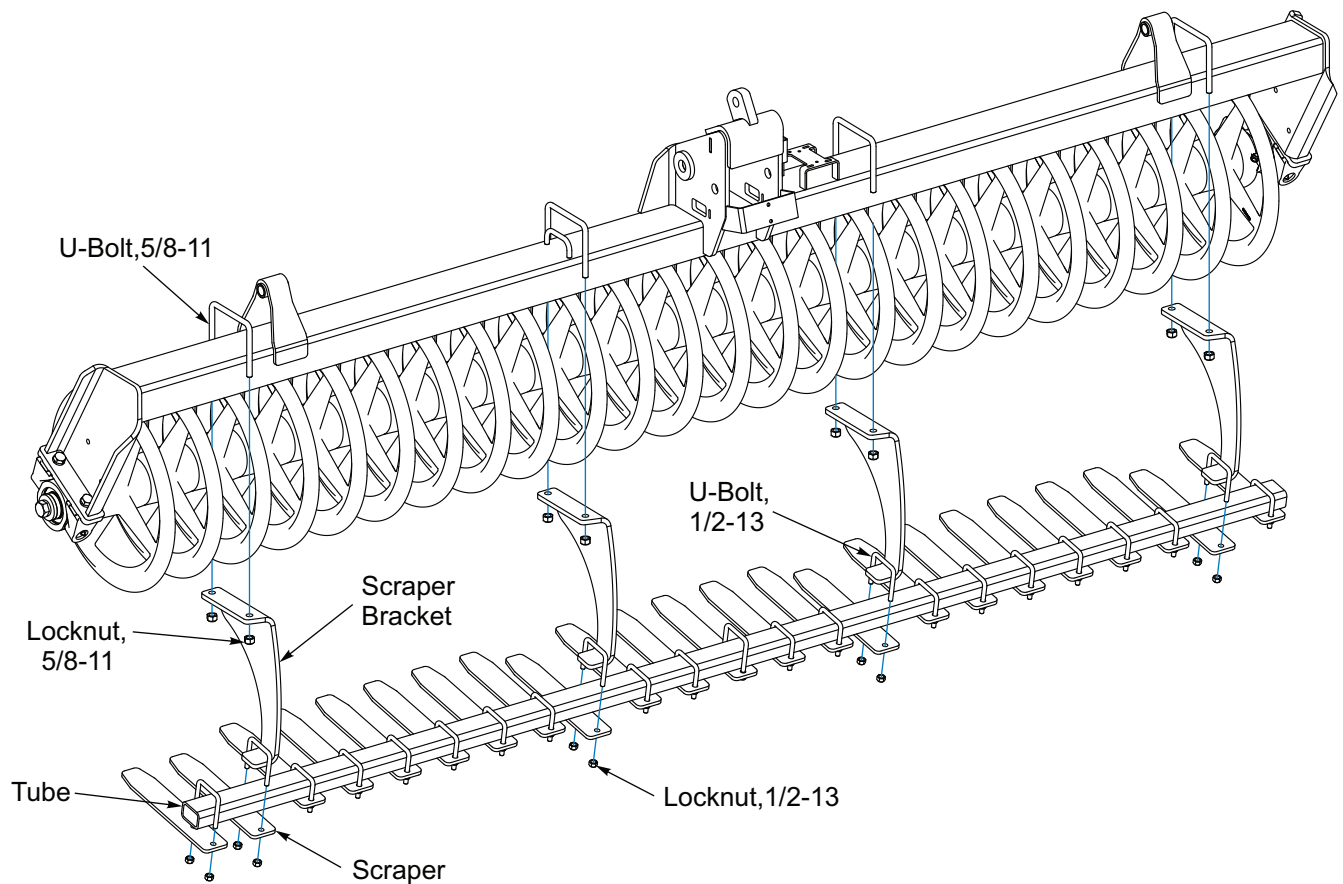

Figure 2-27: V-Wheel Scraper Installation, 10FT - 12FT Models
2. The Scraper Bar is pre-assembled with scrapers attached (spaced approximately 6 inches apart). Remove the eight Locknuts from the U-Bolts where the Scraper Bar will attach to the Scraper Brackets. **See Figure 2-27.**